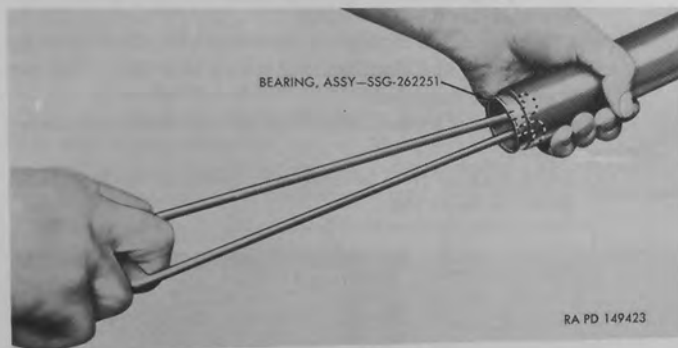

Figure 191. Removing bearing assembly from column jacket.
j. Remove bearing assembly (D) from upper end of column jacket in manner illustrated in figure 191.